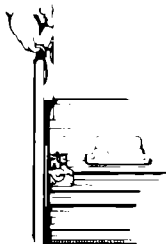

FIGURE 5
- a. Grip handle and raise front of drawer until it clears stops. *See Figure 5.*